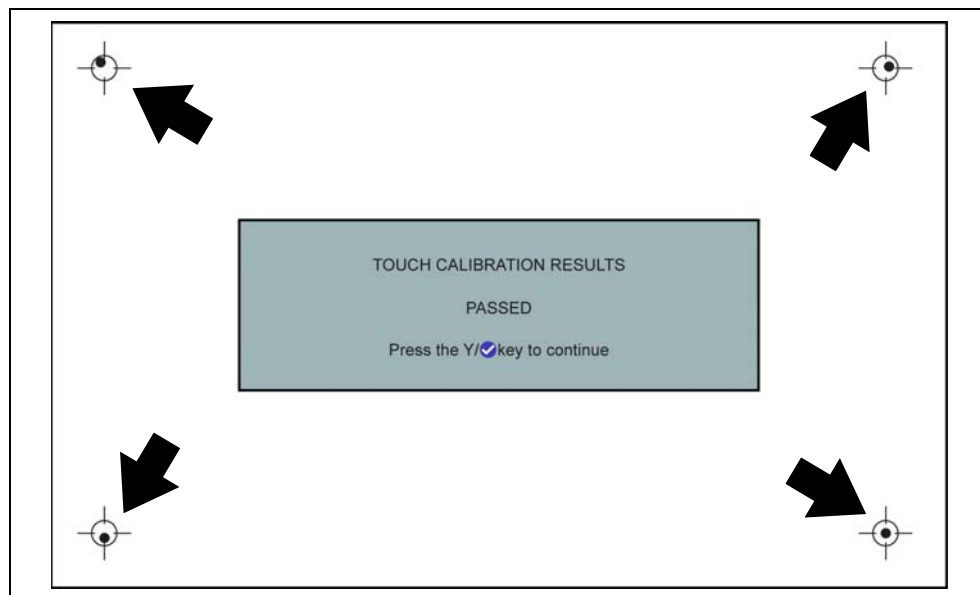

Figure 10-8 Touch screen calibration - Passed
- If the calibration is successful, the “Touch Calibration Results - Passed” screen is displayed (Figure 10-8). Press the **Y** button to complete the process and return to the Display menu.
The results screen (Figure 10-8) shows the entered calibration of each indicator. Ideal calibration would be to select each indicator exactly in the center, however selection inside the displayed circle is acceptable. If selecting the center is difficult using your finger, use a touch screen stylus (not included).